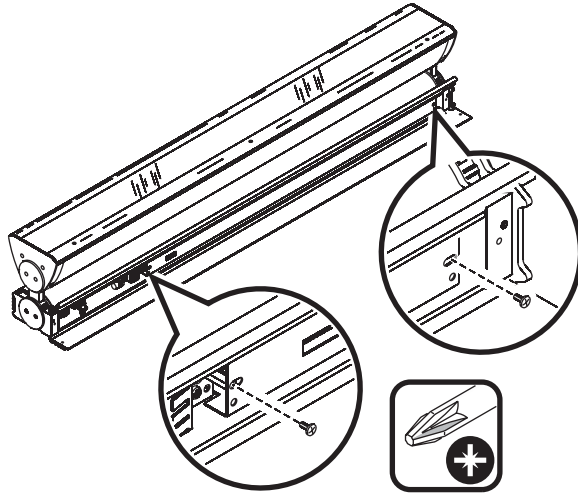

Figure 15: Removing the PCB
3. See Figure 15. Undo the two retaining screws from the ballast tray and slide the tray out of the housing.